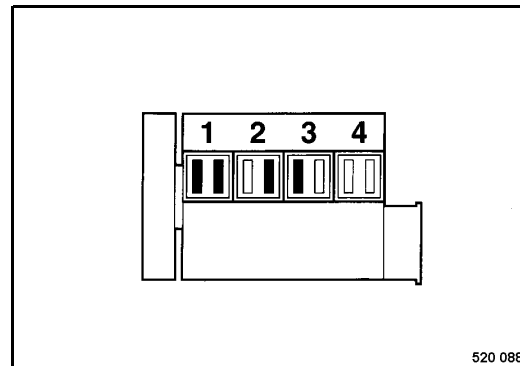

Fig. 167
- Crank the engine with the starter until both valves on cylinder 4 (Fig. 167) are "overlapping" (360° rotation of the crankshaft).
The valves marked black (Fig. 167) can be checked and adjusted.